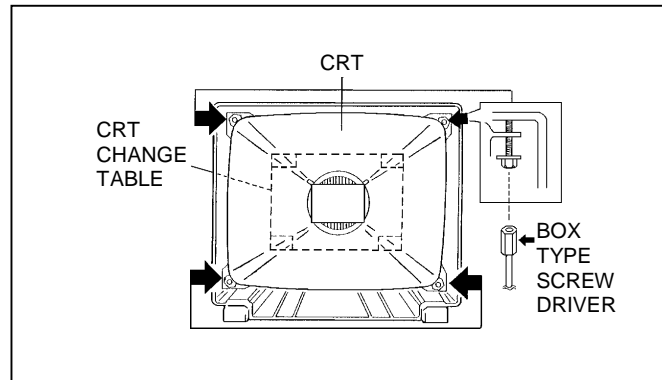

Fig. 4
2. While keeping the surface of CRT down, mount the TV set on the CRT change table balanced will as shown in Fig.4.
3. Remove 4 screws marked by arrows with a box type screwdriver as shown in Fig.4.